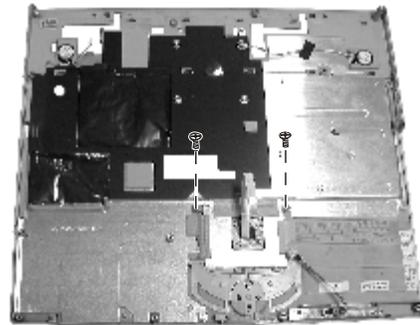

Figure 2-31 Free the touch pad
5. Remove two screws fastening the touch pad bracket. Then remove it. (Figure 2-31)
6. Remove the click holder and touch pad panel. (Figure 2-31)